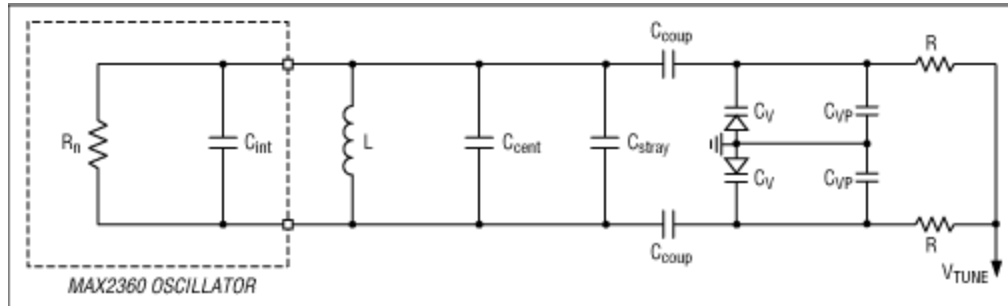

Figure 3. Lumped  $C_{stray}$  model.
**Figure 3** shows the lumped  $C_{stray}$  VCO model. Parasitic capacitance and inductance plague every RF circuit. In order to predict the frequency of oscillation, the parasitic elements must be taken into account. The circuit in Figure 3 lumps the parasitic elements in one capacitor called  $C_{stray}$ . The frequency of oscillation can be characterized by EQN2: